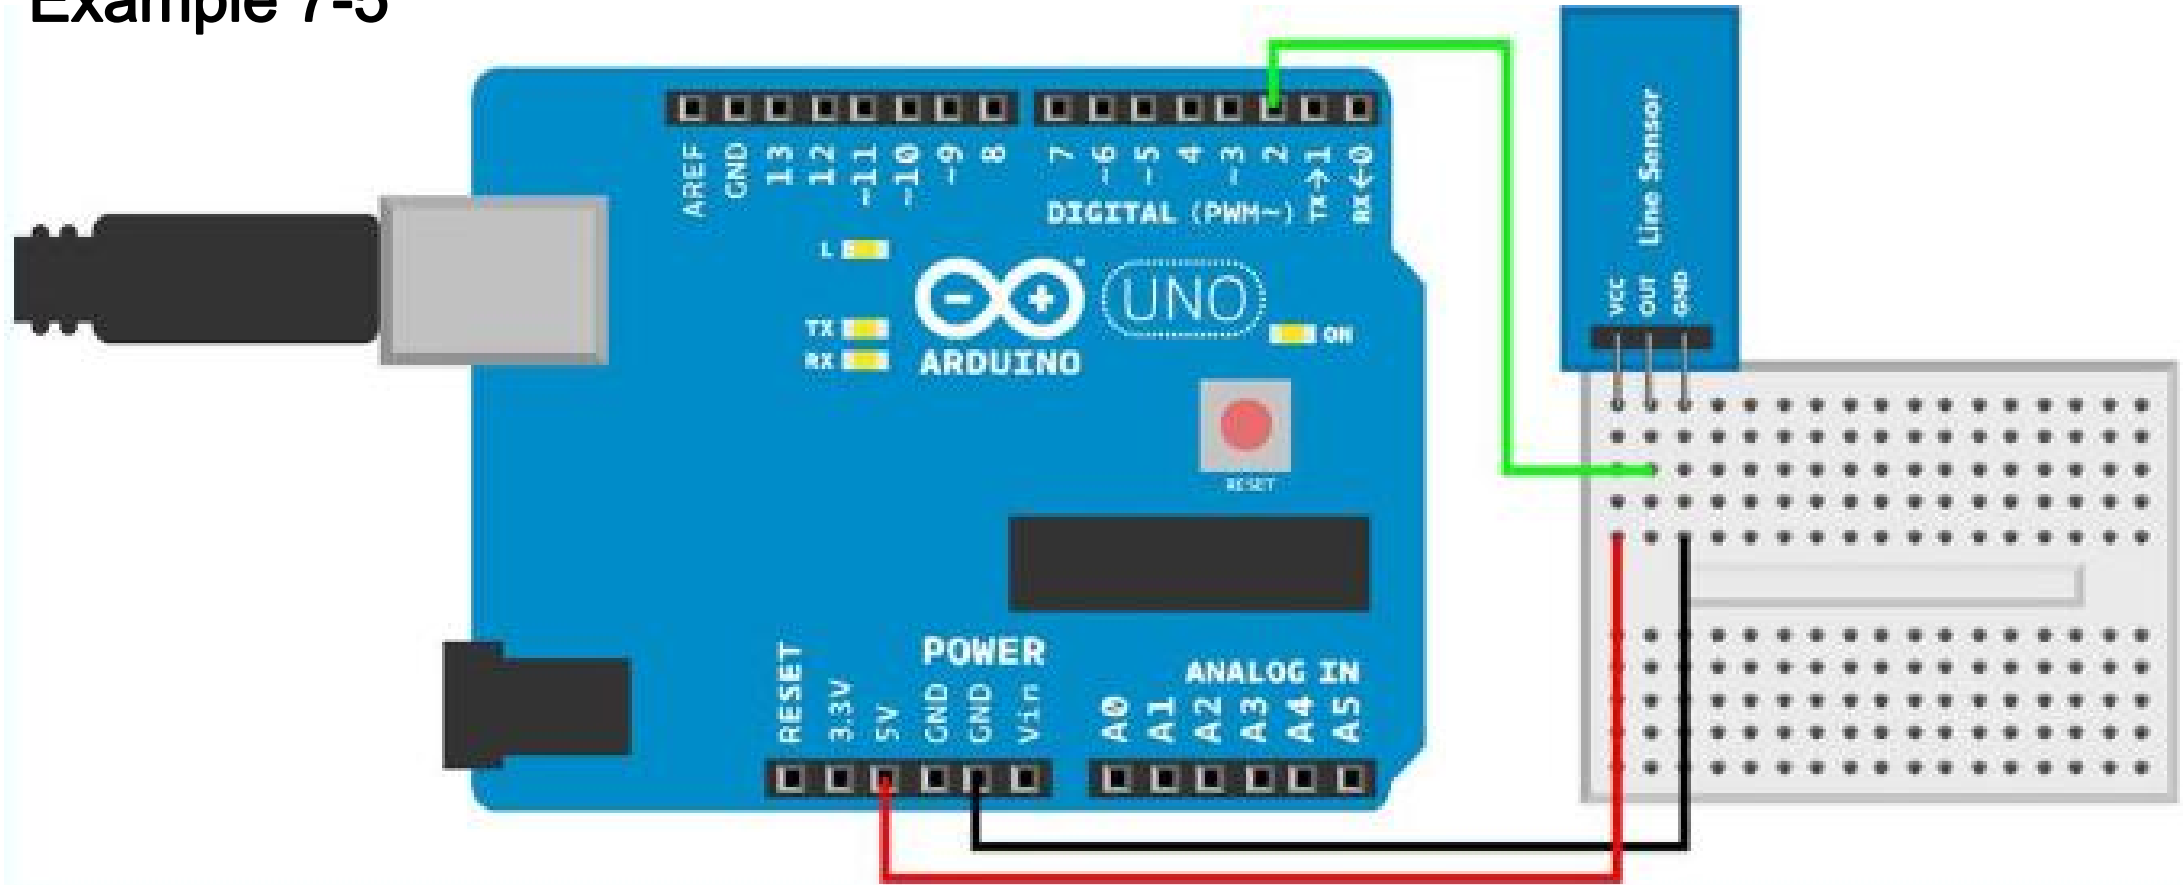

Figure 7-15. Line sensor circuit for Arduino
- Wire up the circuit as shown in Figure 7-15, and run the sketch shown in Example 7-5